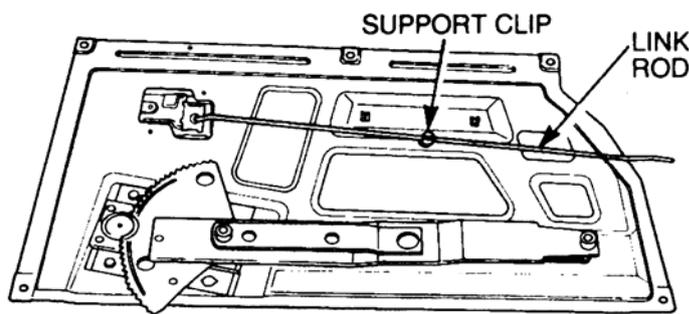

Figure 23 Window Regulator Installation
- r. Press the link rod into the plastic support clip (refer Figure 23).